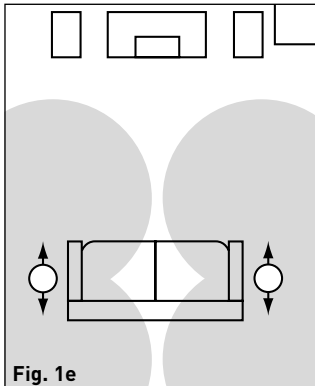

Fig. 1e
7.1 Surround + Rear Placement Using Two P80-SM Speakers (Fig. 1e)